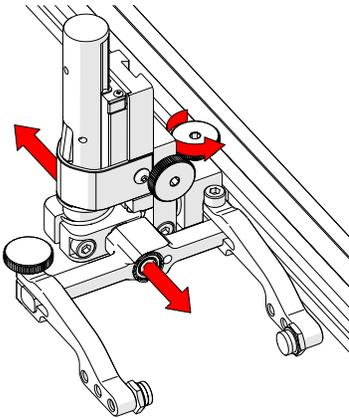

Fig. 123 - Adjust on frame bar
1. The probe holder adjustment knob allows the probe holder to be attached to a frame bar, as well as horizontal positioning on a frame bar (Fig. 123).